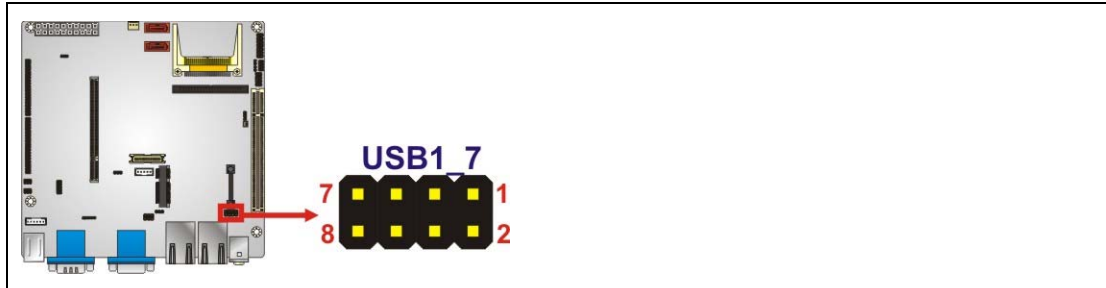

Figure 3-19: USB Connector Pinout Locations
- CN Location:** See **Figure 3-19**